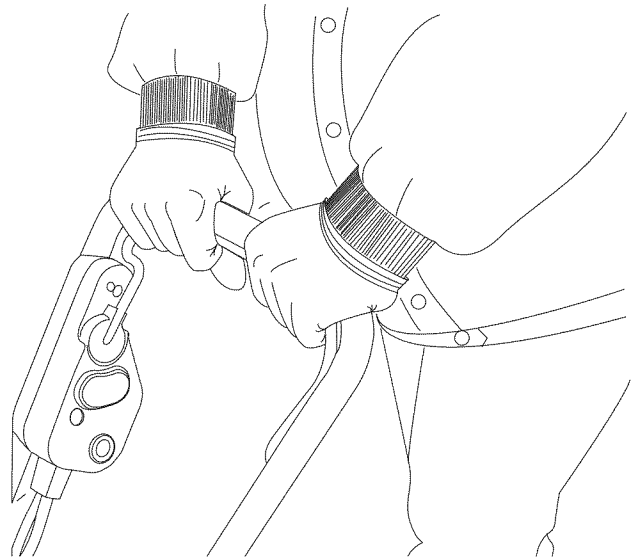

Fig. 6
5. Hold the bail and begin operating the unit (Fig. 6).